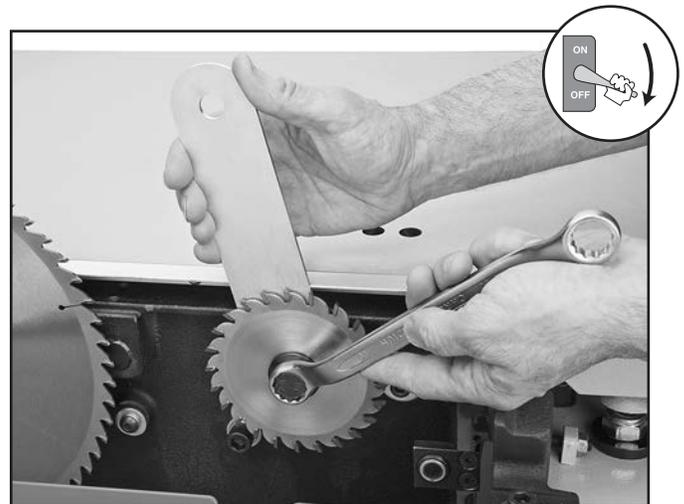

Figure 94. Removing the scoring blade.
5. Place the arbor wrench on the flange behind the scoring blade, then turn the arbor nut counterclockwise until you can remove it and the flange (see **Figure 94**).